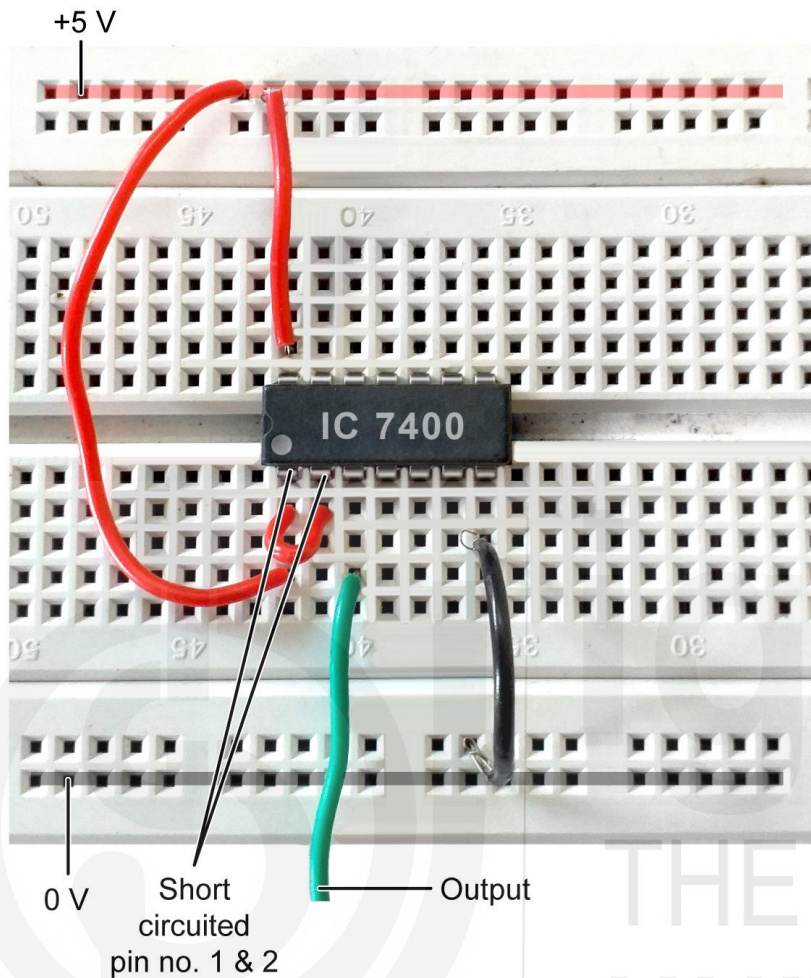

Fig. 1.7: Assembled circuit of NOT gate using IC 7400 on the breadboard.
2. Connect the power supply as described earlier i.e. the positive terminal of the power supply (+ 5V) to pin number 14 and the ground terminal to pin number 7. The circuit will look similar to the one shown in Fig. 1.7.